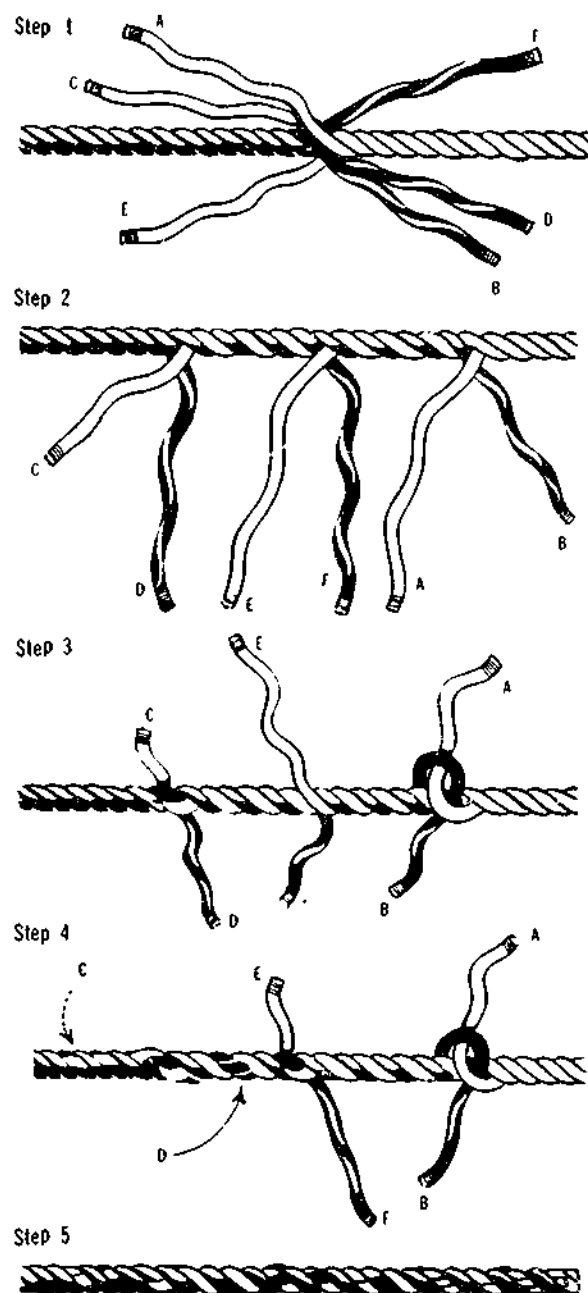

Figure 7-33. Making a Long Splice
- Step 1 To make this splice, begin by unlaying one strand of each rope for 10 or 15 turns, and whip the ends of each strand to prevent untwisting. Then lock the two ropes together by alternating the strands from each end as illustrated in Figure 7-33, Step 1.
- Step 2. Starting at one end, take an opposite pair of strands, A and B, and unlay Strand A. Follow it with Strand B, turn by turn, continuing until only 1' or less of Strand B remains. Keep Strand B tight during this step and pull it down firmly into Strand A's former place. Repeat this operation with Strands C and D. Strand D is unlaid and Strand C is laid in its place. The splice at this stage is illustrated in Figure 7-33, Step 2.
- Step 3 Now each pair of strands is tied loosely together with a simple overhand knot, as indicated by Strands A and B in Figure 7-33, Step 3. Each knot is then pulled down into the rope like Strands C and D.
- Step 4. Each strand is now tucked twice, over and under, as done in making the Short Splice. Figure 7-33, Step 4 shows Strands C and D after tucking. If a smaller diameter splice is desired, tapering can be done by tucking each strand twice more, cutting away some of the threads for each additional tuck.
- Step 5. When tucking is finished, cut all strands off close to the rope and roll the splice on the floor under your foot to smooth it out. The completed Long Splice is illustrated in Figure 7-33, Step 5.